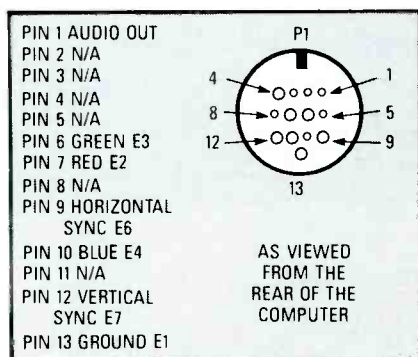
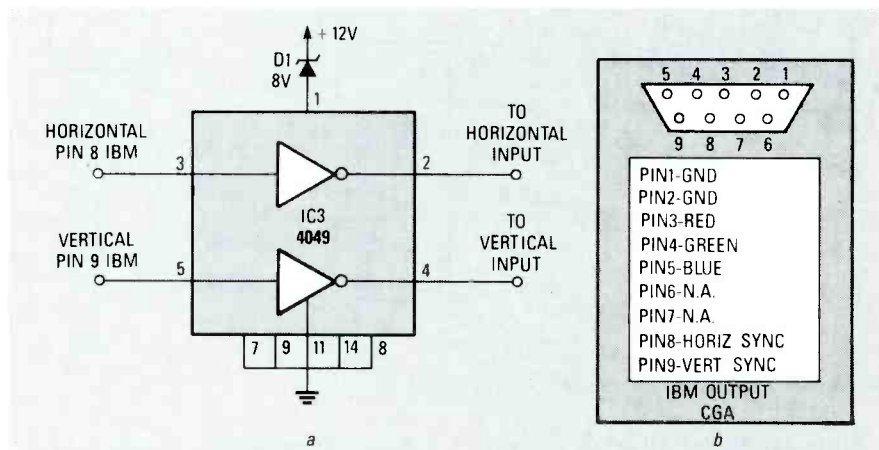

Fig. 5 VIDEO OUTPUT connector of the Atari ST.
Fig. 6 USE THIS CIRCUIT FOR AN IBM CGA video system. The gates invert the sync lines.
Sometimes clandestine, spurious or overbearing emissions can be so powerful that they cause problems many miles from their source. Enter the *automatic direction-finding system* manufactured by Doppler Systems Inc., PO Box 31819, Phoenix, AZ. 85046, (602) 488-9755. Figure 5 shows the Doppler direction-finder attached by *Velcro* to the right top of the spec-an. The circle of LEDs indicates the bearing to the RF source, while a 7-segment LED-display indicates the bearing in large numerals. The Doppler system has a frequency range of 27 MHz to 500 MHz, and can be connected to any standard VHF or UHF FM-receiver. No receiver modifications are required—simply plug the Doppler electronics into the receiver's antenna and external speaker jacks.
Pinout information for the Atari ST is shown in Fig. 5. To connect the circuit to an IBM CGA circuit, you must invert the sync signals. A simple way to do that is shown in Fig. 6-a; the IBM video pinout is shown in Fig. 6-b.